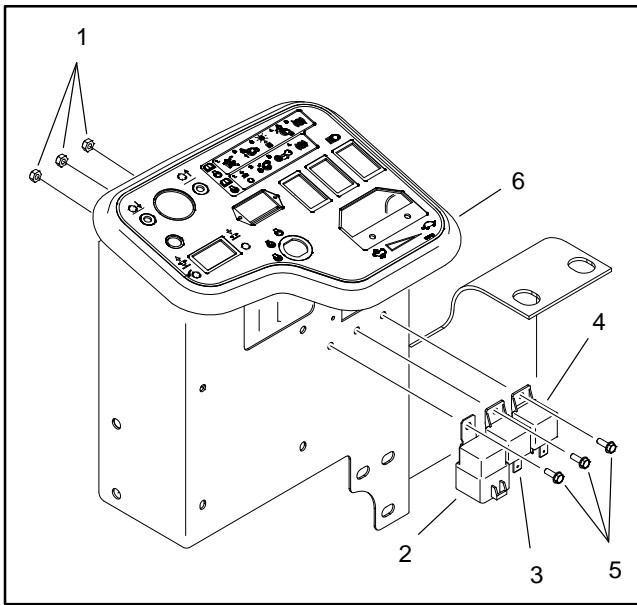
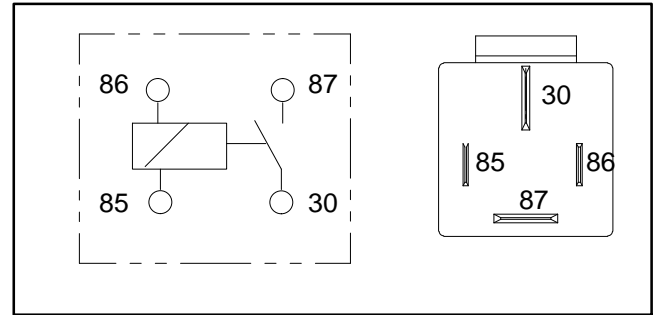

Figure 50
Figure 51
The glow relay is secured to the control panel assembly next to the operator seat (Fig. 50). This relay is attached to the wire harness with a four (4) wire connector (Fig. 51). The relay can be accessed by removing the control panel cover.